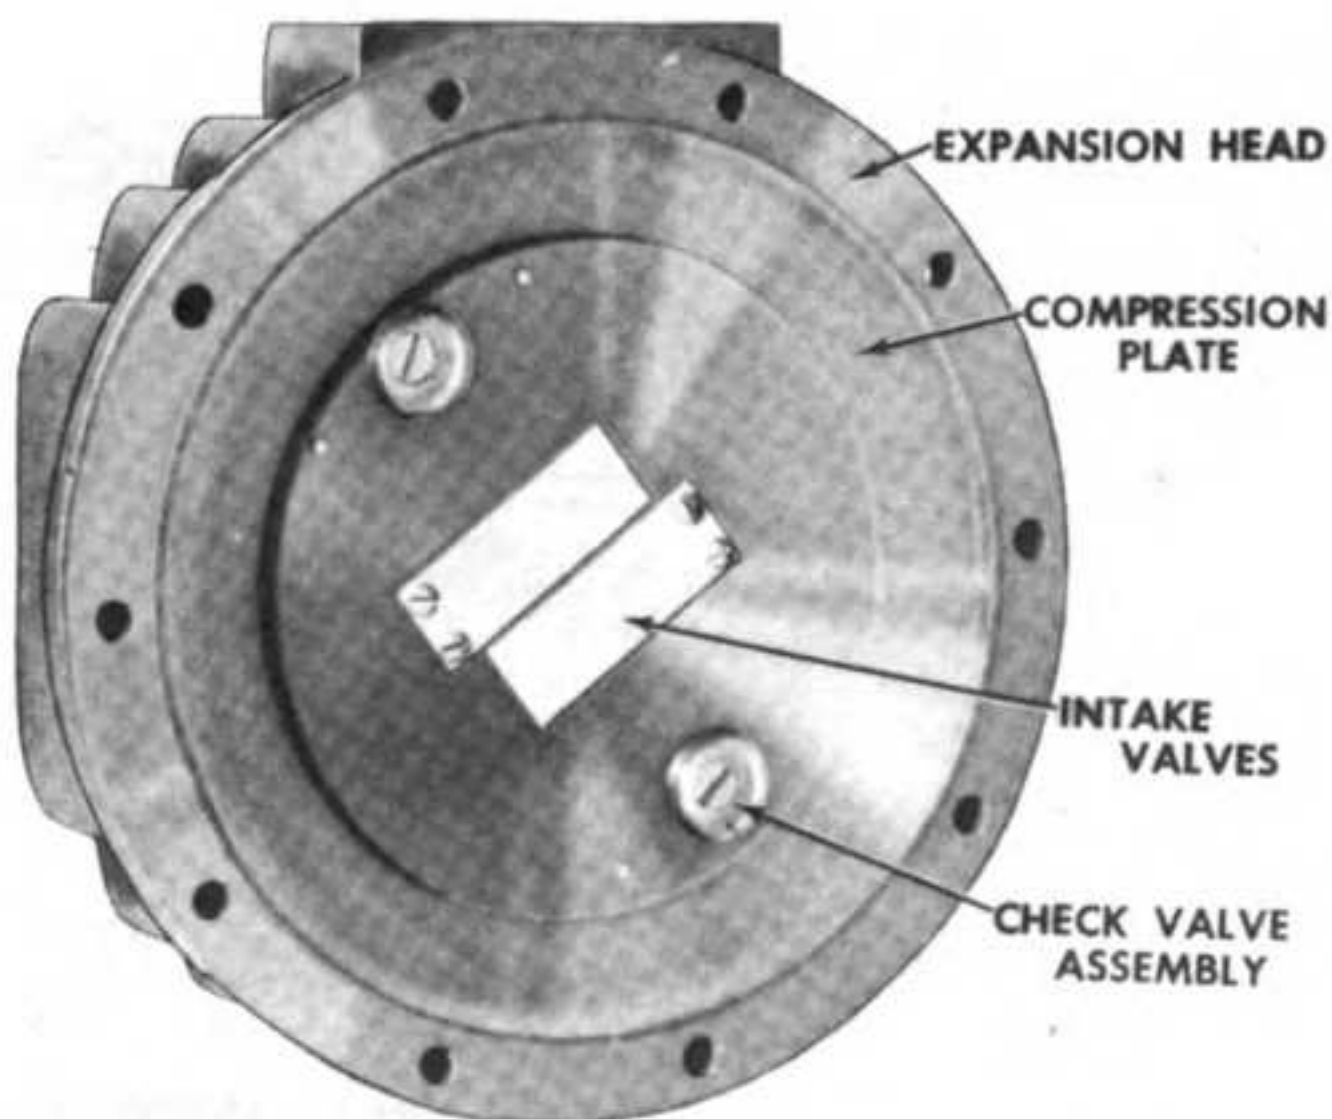

Figure 28—Compression Plate Positioned in Expansion Head
- (5) To remove intake valves, remove the two round-head screws securing each to the opposite side of the compression plate. (See figure 28.)